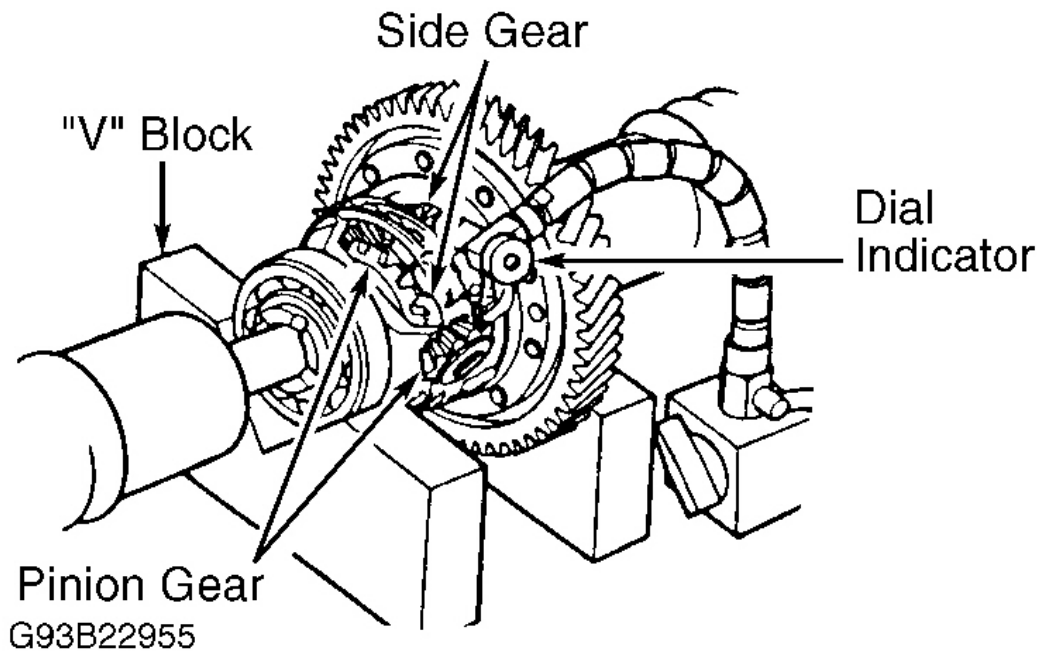

Fig. 31: Checking Side Gear Backlash
2. Install dial indicator with stem resting against pinion gear. See **Fig. 31** . Check side gear backlash. Side gear backlash should be .002- .006" (.05-.15 mm). Replace differential assembly if side gear backlash is not within specification.